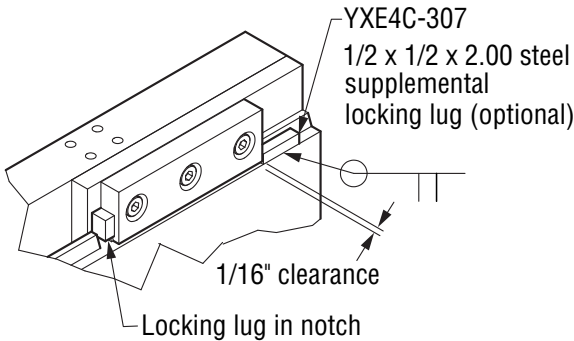

Figure 4-5, Welding the optional locking lug
5. Weld on the (optional) extra locking lug supplied with the attachment, (two pieces of 1/2" x 1/2" x 2.00" steel, shipped loose) with either E-6011 or E-6013 welding rod, or equivalent, on each side of the truck carriage. (Figure 4-5)